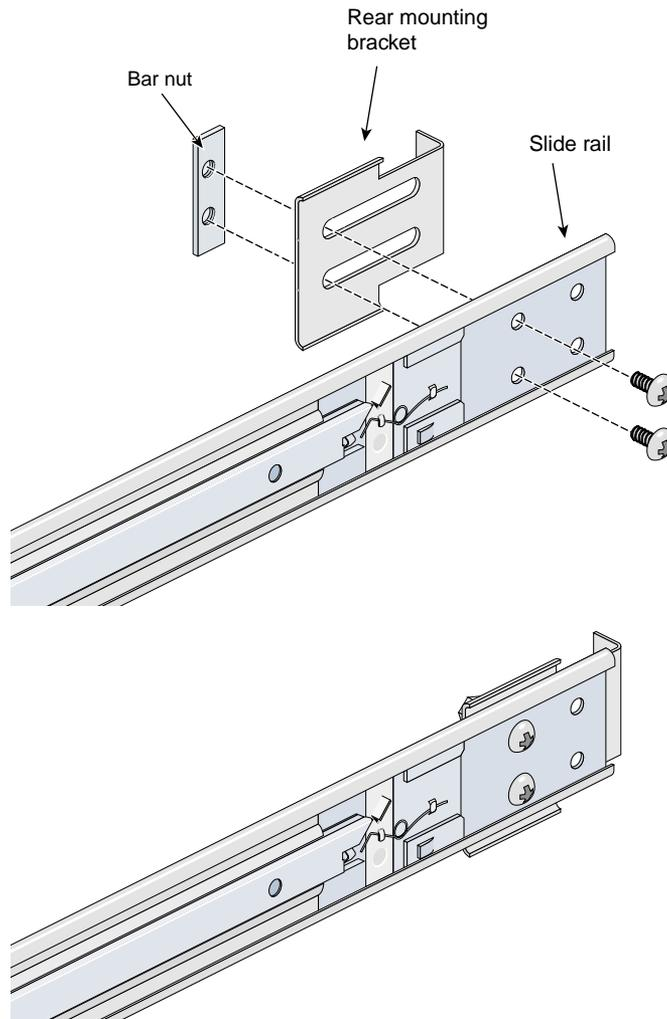

Figure C-2 Attaching the Rear Mounting Bracket to the Slide Rail
4. Place one of the mounting brackets on the back of the slide rail as shown in Figure C-2. Adjust the position of the mounting bracket on the slide rail according to the depth of the rack.
5. Place a bar nut next to the mounting bracket. Secure the mounting bracket to the slide rail by inserting two 10-32 x 1/2-inch screws through the assembly and into the bar nut as shown in Figure C-2.